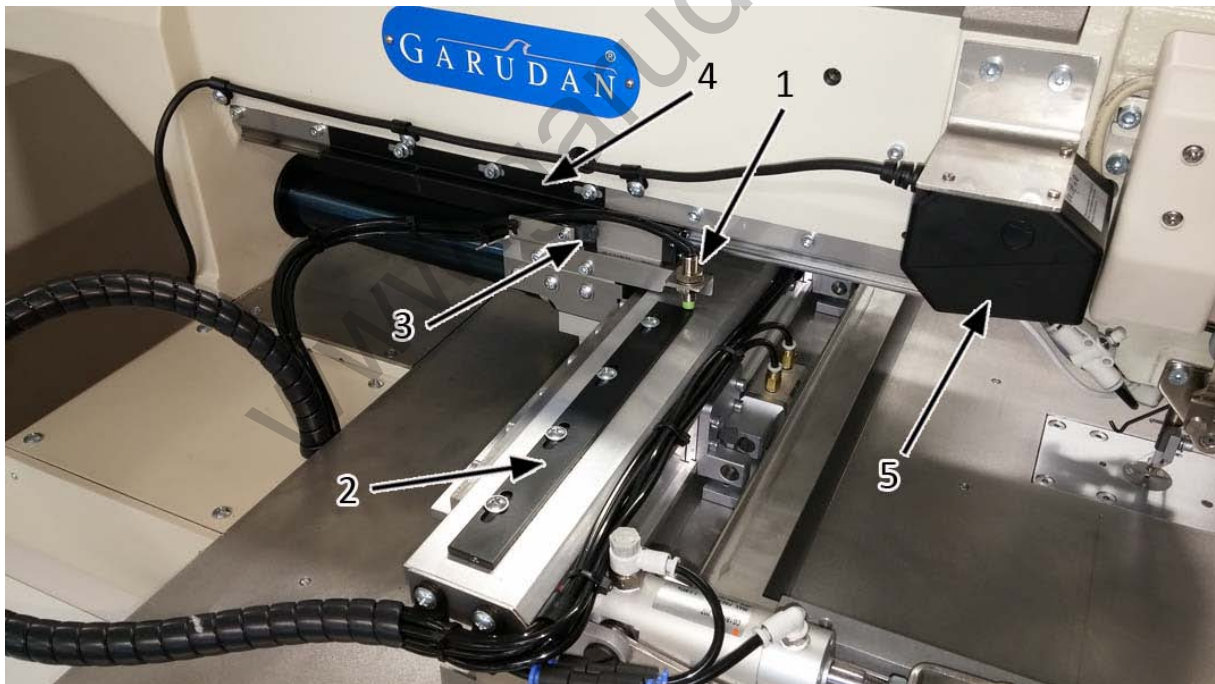
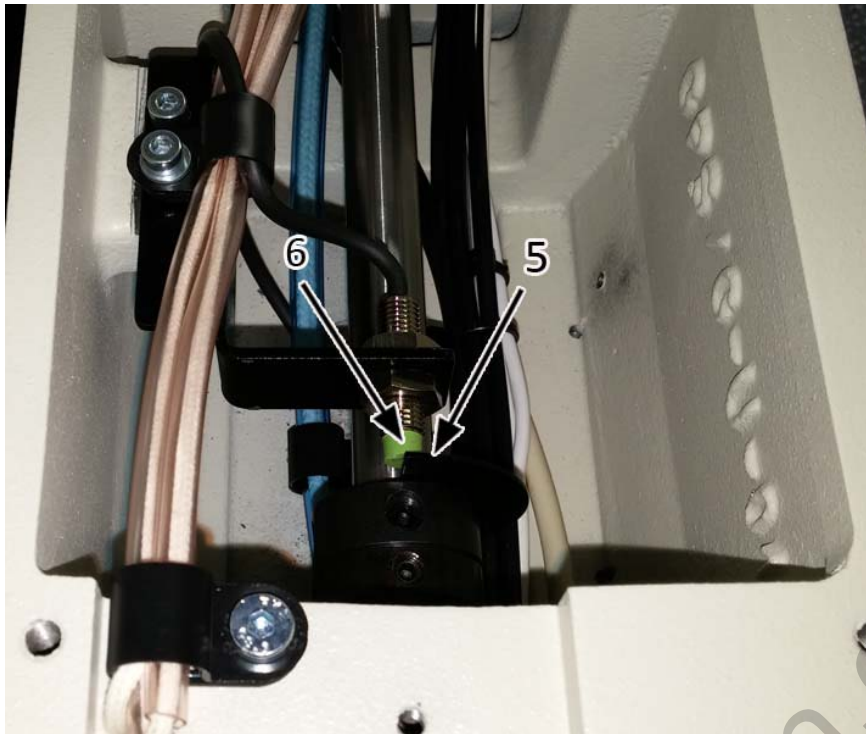
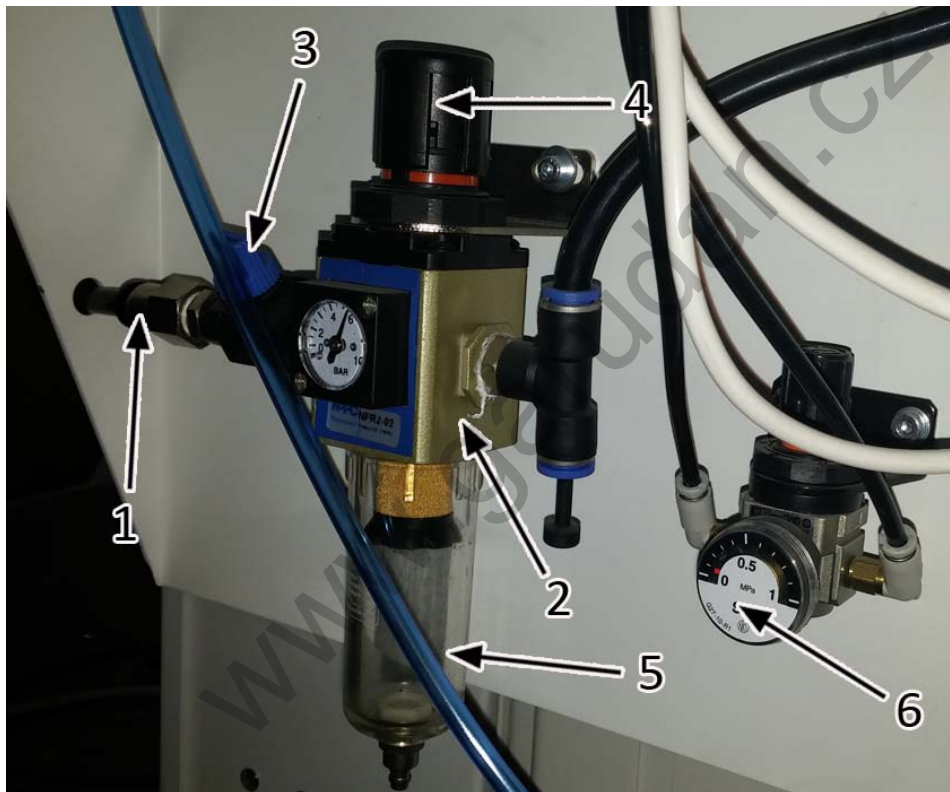

Fig. 43
Fig. 44
Fig. 53
- A. Sensors are placed on the machine arm, under left cover of the linear railway (fig. 43).
- B. X axis movement position can be set by moving sensor plate (2) against the sensor (1)
- C. X axis movement position can be set by moving sensor plate (3) against the sensor (4)
- For setting of initial points on X and Y axes move the feeding plate to its central position in both axes. Initial point refers to the actual center position of the feeding plate towards the needle. In this position the edges of sensor plates 2 and 4 are in line with the middle of sensors 1 and 3 (like the edge of sensor plate on fig. 44)
- D. Sensor of Z axis is located in the machine head and it can be reached after taking off cover of the machine head. Revolving sensor plate 5 is located on the main shaft. Put the needle in the lower stop position and make the setting of the sensor plate 5 located on the ring as is illustrated on the figure 44 – the sensor plate is in the middle of the body of the sensor 6.
Fig. 43 shows position of the barcode reader (5) on the machine.
If the machine is not supplied with special feeding frame or feeding frame with pneumatically actuated fixing manufactured by special order, standard solution mounted on the machine is compact feeding frame consisting of one-piece upper presser frame (1) and one-piece lower feeding frame (5), see fig. 44.
- A. Speed of the upper frame (1) down movement can be adjusted by valves (2) on both pneumatic cylinders
- B. Pressing force can also be regulated by pressure gauge (6), see fig. 53.
- C. For disassembly of the upper frame (1), remove 6 screws (3) on right and left holders. At the same time, it is necessary to disconnect pneumatic hose nipples (4).
- A. Connect air hose to nipple (1) on the entry unit (2), see fig. 53.
- B. Open air valve (3).
- C. By turning the knob (4) on the entry unit set the pressure for the value 0,55 - 0,6 MPa. Check the correct air pressure value on the manometer gauge
- D. Make sure that the liquid in the separator (5) is regularly emptied. Neglecting of this point can cause presence of the humidity in the system and thus wrong function of the thread trimming!